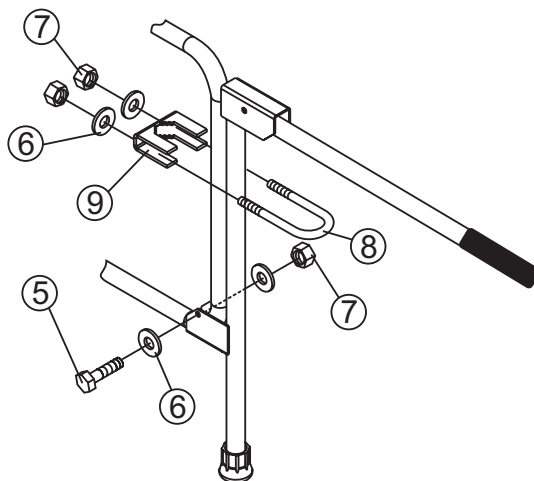

Figure 4. Securing the Handle Mount to the Frame.
5. Lifting the front of the unit, set the rounded corner of the frame tubing in the bracket on the handle mount (Figure 4). Place a **screw** (item 5) and **flat washer** (item 6) through the holes, securing the tubing in place. place another flat washer and a **nyloc nut** (item 7) on the threaded end of the screw and tighten.